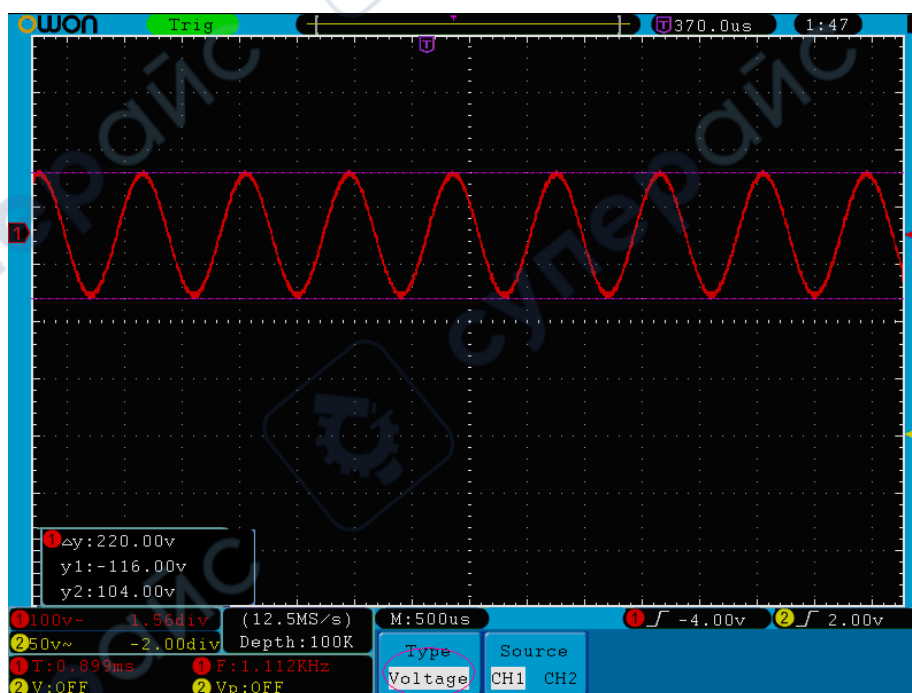

Fig.5-51 Waveform of Voltage Cursor Measurement
4. According to the measured waveform, adjust the positions of Cursor1 and Cursor2 by turning the **VERTICAL POSITION** knob of CH1 and CH2. Cursor increment window at the left bottom of waveform shows absolute value of D-value of cursor 1 and cursor 2 and the present position of the two cursors. (See **Fig.5-51**).